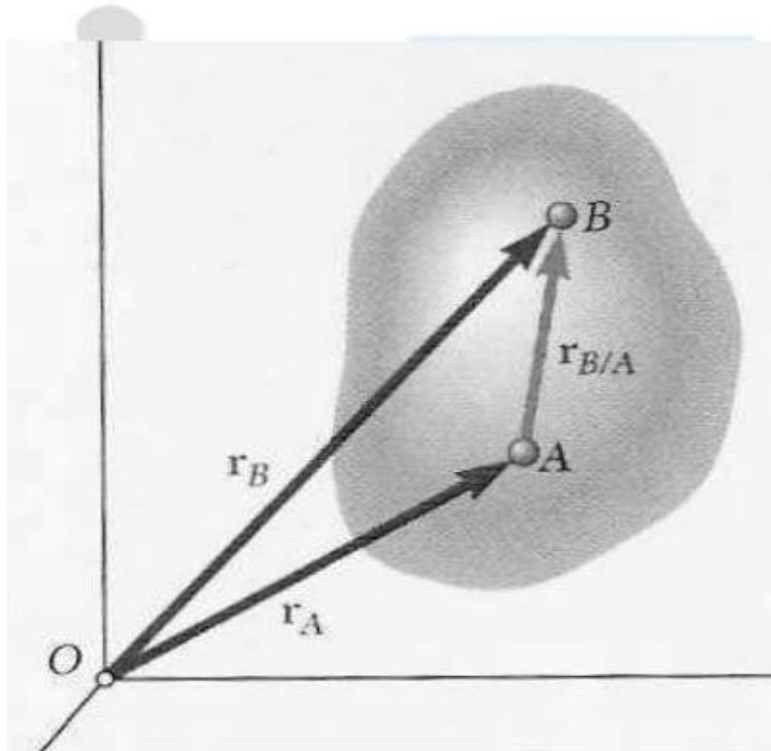

Figure 1: Rigid body concept.
**Rigid Body:** In physics, a rigid body is an idealization of a solid body in which deformation is neglected. In other words, the distance between any two given points of a rigid body remains constant in time regardless of external forces exerted on it. Even though such an object cannot physically exist due to relativity, objects can normally be assumed to be perfectly rigid if they are not moving near the speed of light. In Figure 1 points *A* and *B* are the original position in a body. Many engineering problems can be solved satisfactorily by assuming bodies rigid.